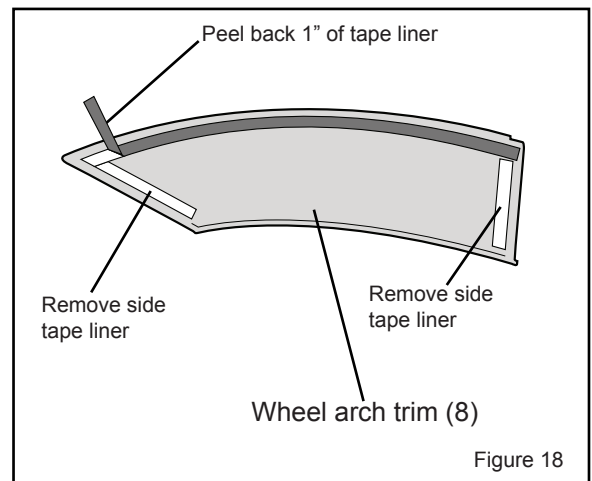

Figure 18
- On the backside of wheel arch trim (8) remove side tape liners. Peel back 1" of tape liner from top of wheel arch trim (8). Figure 18